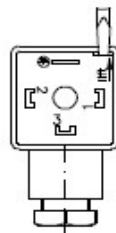

Fig. 6
- Open the inner part (pos. 8) of the connector (pos. 2) with a screwdriver or a similar tool (fig. 6).